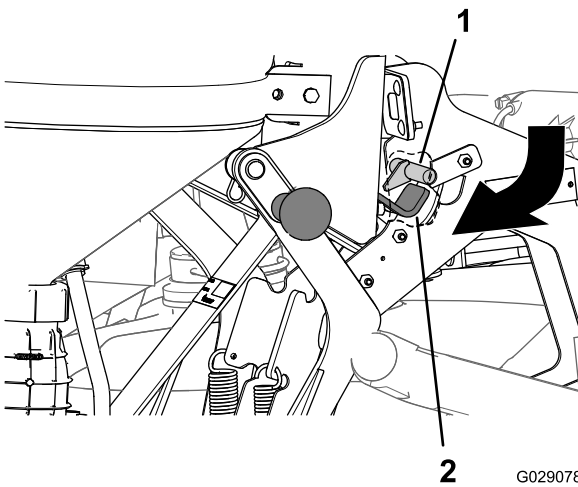

Figure 34 G029078
3. Pull the eductor handle outward and down until the hook of the latch at the inboard side of the back plate is clear of the latch rod of the main support-frame assembly (Figure 34).
3. Push in the handles at the top of the cradle until the hook portion of the latch is aligned behind the latch rod of the main-support frame (Figure 34).